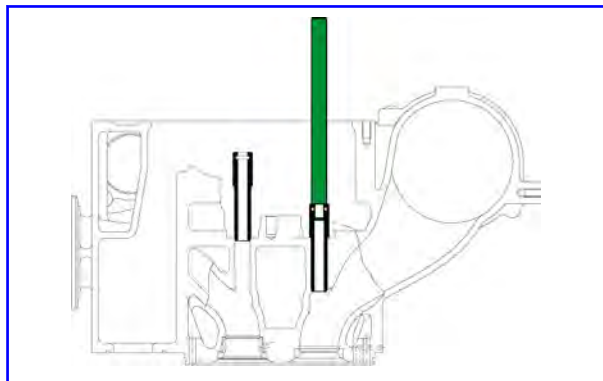

Figure 2: Mounting of valve guide
- 3) Slightly pres-in the valve guide until the shoulder bear against the cylinder head, see fig 2.